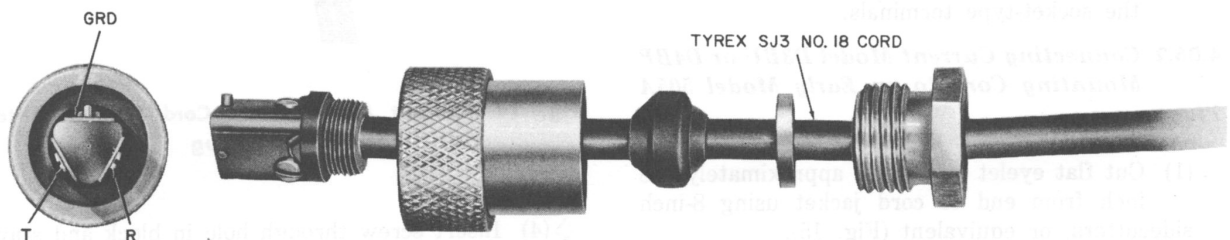

Fig. 8—KS-8419 Plug
**2.08** The KS-8419 plug (Fig. 8) is a 3-contact, brass plug intended for connecting telephone sets installed on boats, trains, or auto trailers to outdoor jacks of PBX or CO lines. This plug is intended for use with KS-8420 or KS-8421 jacks.
- (1) Plug components are assembled to TYREX SJ3 No. 18 cord or equivalent (Fig. 8).
- (2) In TYREX SJ3 No. 18 cord or equivalent, the black conductor should be used for the ring (negative) side of the line. The white conductor should be used for tip (positive) side of the line. The green conductor is the ground conductor.
- (3) One terminal of the KS-8419 plug has a small lug protruding from the contact. This lug and the notched terminal on KS-8420 and KS-8421 jacks are provided to ensure that the plug is inserted in one position only.
- (4) When ground is necessary for service, the green conductor should be terminated on the notched terminal.